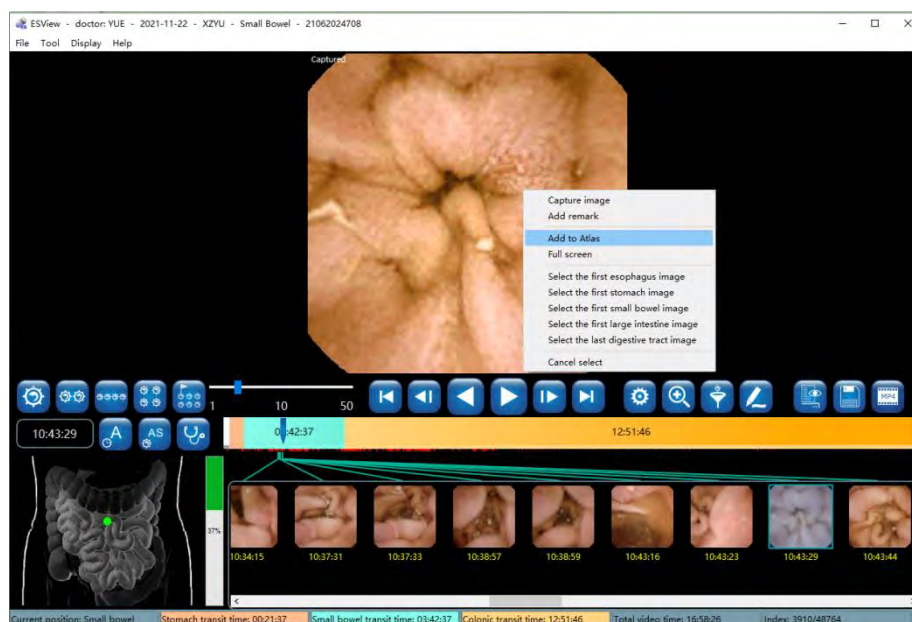

Figure 4-49: Add to Atlas
1. Move the mouse over the image, right click the mouse and select "Add to Atlas" in the pop-up menu (Figure 4-49 to access the add to atlas interface).